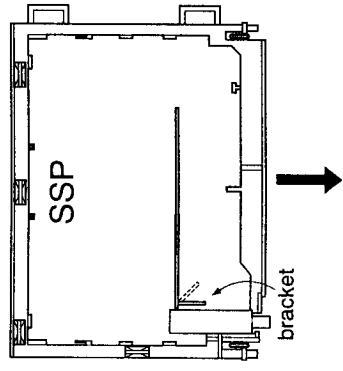
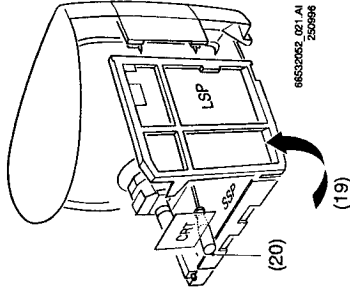

Figure 4.2
Figure 4.9
When all cables on the SSP are disconnected, the SSP can also be removed from its bracket (Figure 4.2), providing better access to component and copper side.
**Service position (LSP copper side) without table/workbench (Fig. 4.9)**
2. Lift the chassis from the bottom plate and turn it counter clockwise (19).
3. The SSP can be fixed with a screwdriver to the bottom plate (20). The copper side of the LSP can now be accessed.
**Small Signal Panel (Fig. 4.2)**